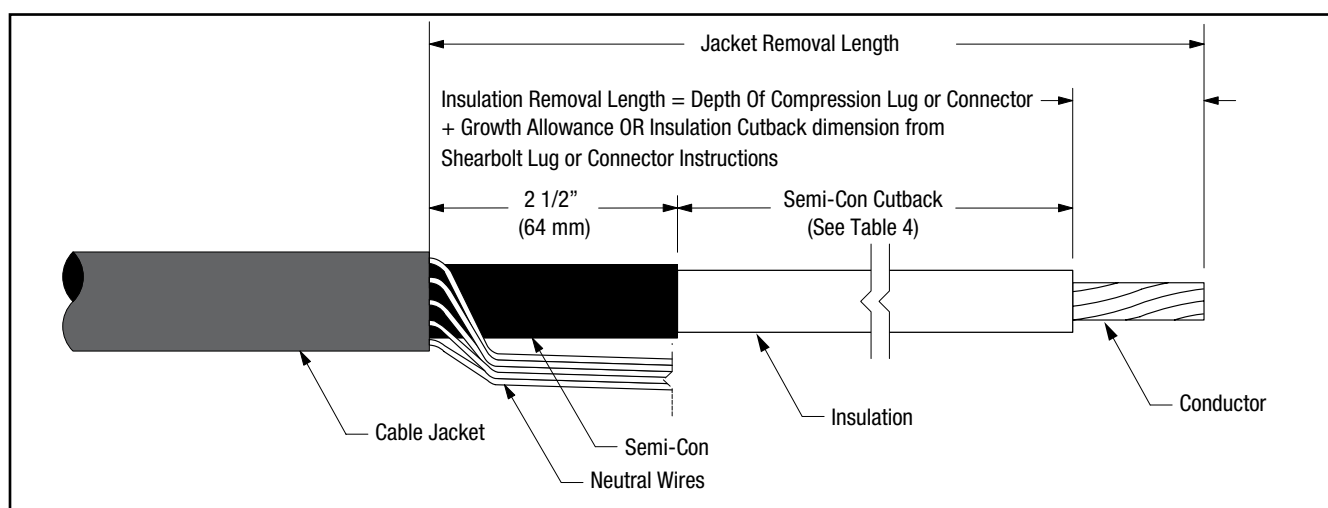

Figure 1
- 2.3 Prepare cable using dimensions shown in Figure 1. **BE SURE TO ALLOW FOR DEPTH OF TERMINAL LUG OR CONNECTOR.** If using 3M Shearbolt Lugs QL2 Series: Two Hole, or 3M Mechanical Shearbolt Connector QCI Series, proceed to Step 2.4. If using a Crimp Type (Compression) lug, measure the depth of the barrel, or if using a Crimp Type (Compression) connector, measure to the barrel center stop/midpoint, and see the NOTE below, in order to calculate the Insulation Removal Length. Table 5 can be used to assist in calculating the total Jacket Removal Length when using a compression lug or connector.